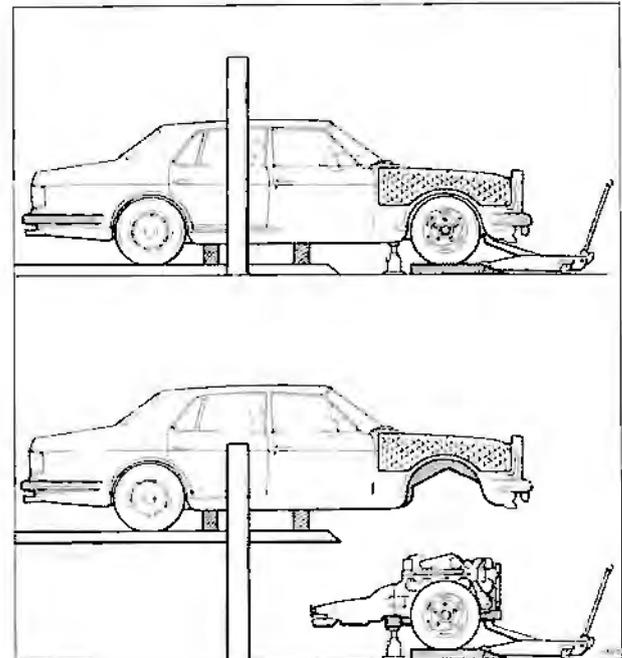

Fig. H3-10 Sub-frame, engine and transmission unit removal
38. Position sill blocks beneath the car body sills as far forward as possible to maintain the body on the ramp in the horizontal position (see fig. H3-10).
40. Place a jack beneath the rear crossmember of the front sub-frame and also beneath the front triangle lever mounting bracket (see fig. H3-10).